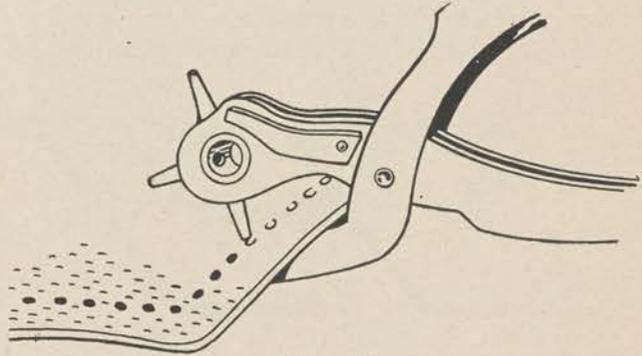

Figure 31.
e. Lacing is generally done through round holes which are made with a drive punch and a mallet or with a spring punch. The drive punch is centered over the mark and tapped with the mallet. Drive punches come in several sizes of which the No. 0 is most widely used for small articles (fig. 30). The spring punch of the type illustrated has a revolving head bearing punches of different sizes (fig. 31).